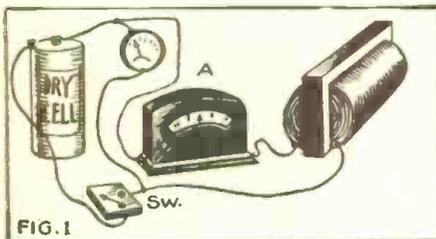

FIG. 1
**F**IND a good big coil. The power transformer from an old broadcast set will do if it's big enough. We can use the secondary and ignore the other windings. Hook it up as shown in Fig. 1. Now close the switch, and note that the voltmeter swings up to full reading immediately. Not so the milliammeter. It takes its time, and swings slowly up to its steady value. If the
Same set-up as in Fig. 1 except that resistor R and switch Sw2 have been added, to show effect of resistance on current flow.